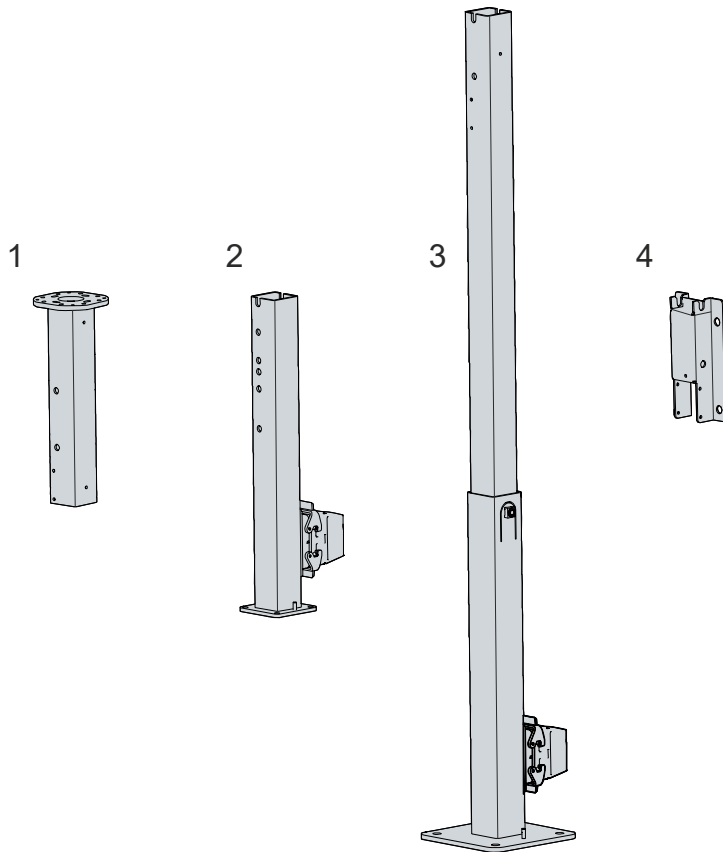

Fig. 7: Mounting arms
Figure 7 shows the four available mounting arms for mounting on the ceiling (1), on the control cabinet (2), on the floor (3) and on the wall (4).
The C9900-M803 and M804 mounting arms are equipped with a cable set for the CP32xx-2xxx or the C9900-M800 push button extension. These cables are connected to a HAN connection socket in the lower part of the mounting arms. Figure 7 shows the connection sockets on the two mounting arms mentioned (2, 3). Both mounting arms are supplied with a plug to match the connection socket. Further information on the HAN plug can be found in the corresponding plug documentation.